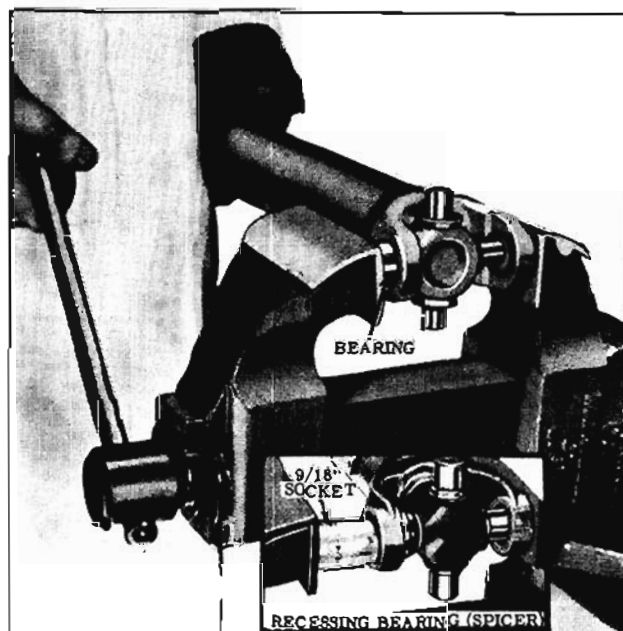

Fig. 10-7 Installing Bearings
5. Press a bearing into one side of yoke until retaining ring can be installed. (Fig. 10-7)
NOTE: On Spicer units the bearing must be recessed into the yoke so that the retaining ring can be installed. The bearing can be recessed with a 9/16" socket and vise. (Inset, Fig. 10-7)